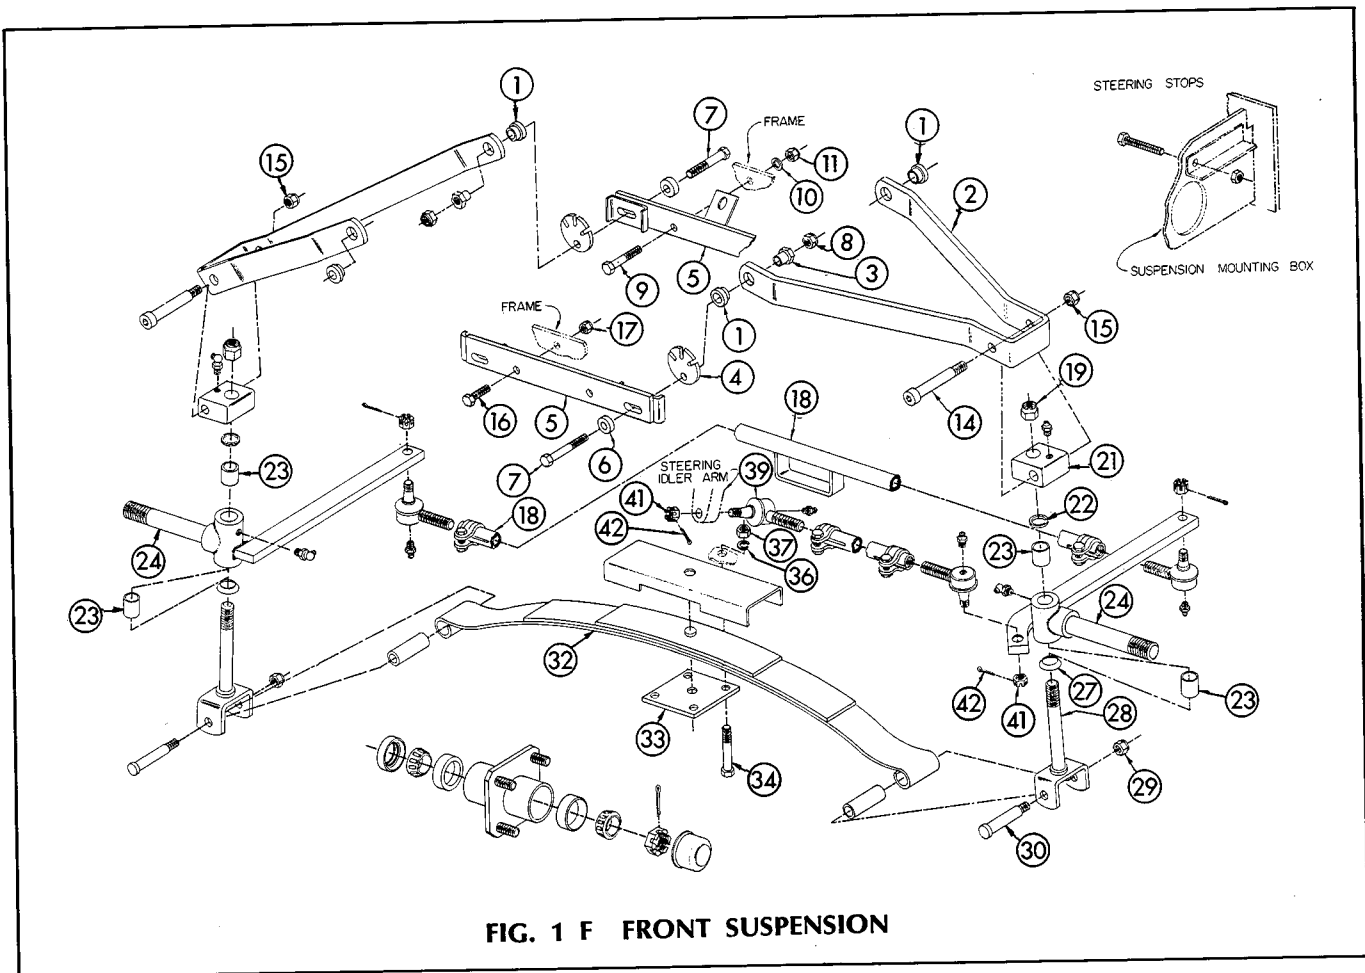

FIG. 1 F FRONT SUSPENSION
**FRONT** (4 Wheel Cars) Fig. 1 F**Removal and Disassembly:**